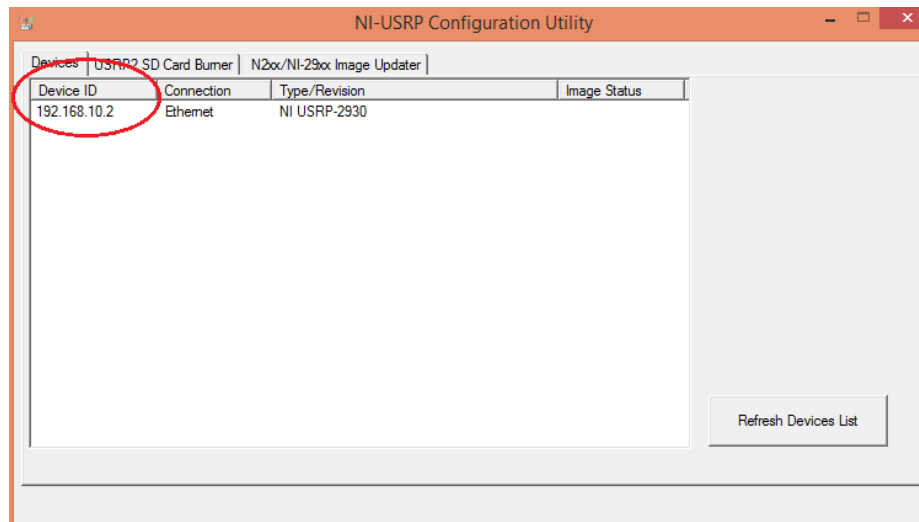

Figure 2.6: The NI USRP Configuration Utility software
3. Launch the NI USRP Configuration Utility³ to find the Device Name for your NI USRP device. See Fig. 2.6 **HINT FOR THE INSTRUCTORS: When the NI**
the Utility software. Both Image Status filed and Image Updater tab can be seen in the Fig. 2.6